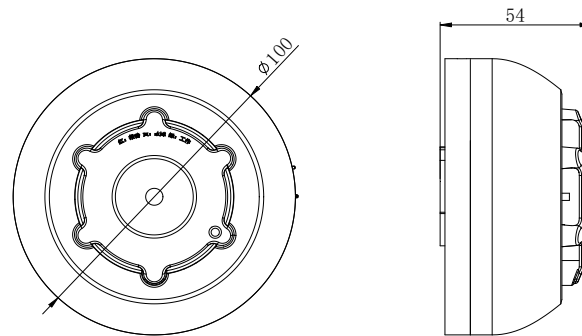

Fig.1 Outline diagram of the detector
1. The outline diagram of the detector is shown in Figure 1.